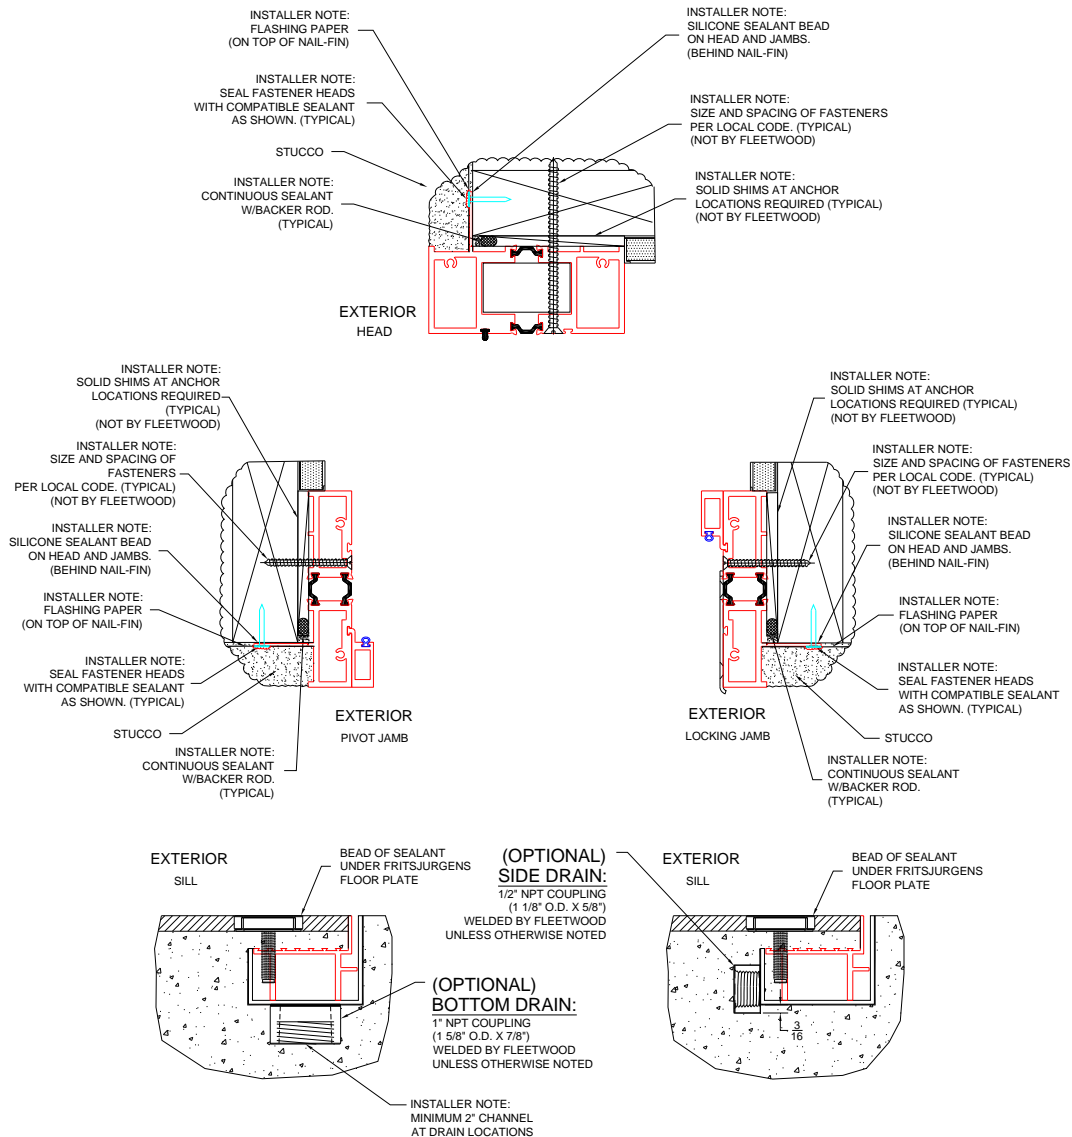

Figure 7:
9. To complete the installation, apply backer rod and a complete bed of sealant to the entire exterior and interior joint between the frame and the building structure. Tool the sealant to eliminate bubbles, voids and / or breaks and ensure a completely watertight seal (Figure 7,9).